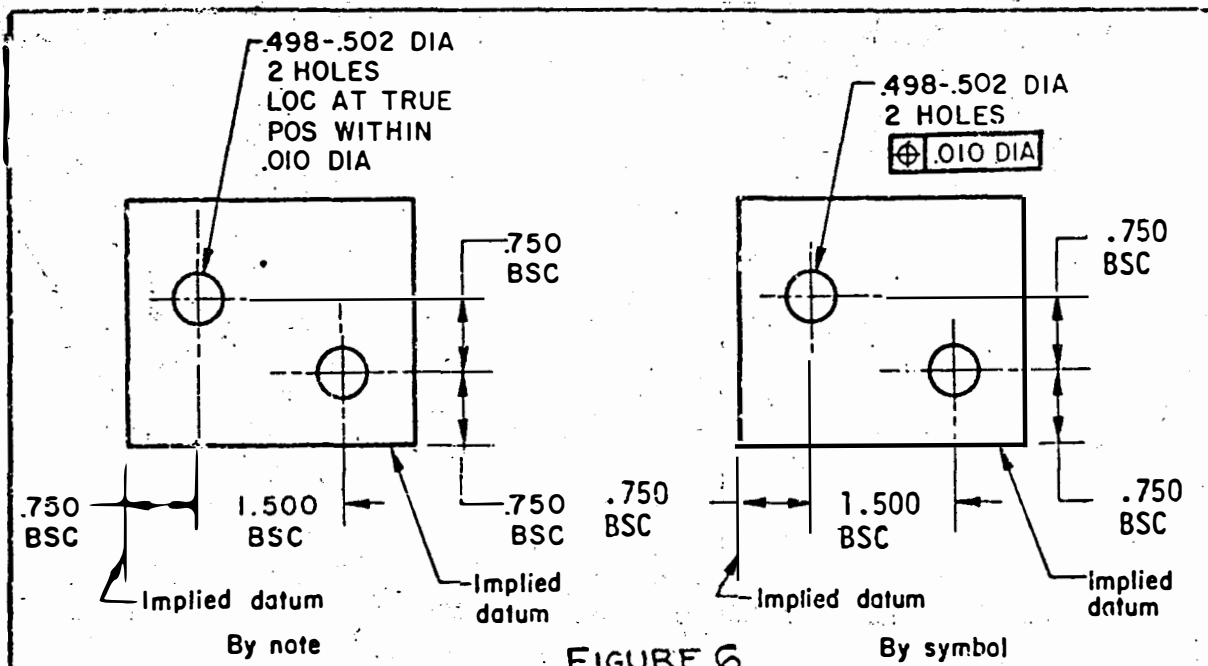

FIGURE 6
2. By implying as in Figures 6, 7, and 8 the implied datums (by use of pattern-locating dimensions referred directly from datum surfaces).